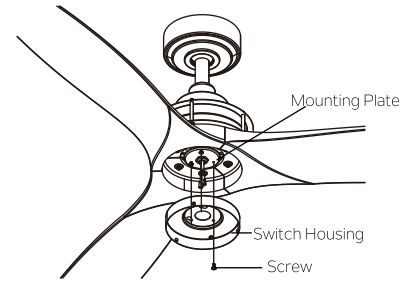

Fig. 24
**Step 4.** Place the two slot holes on the switch housing over the 2 screws previously installed on the mounting plate. Rotate the switch housing until it locks in place at the narrow end of the key holes. Secure by tightening the 2 screws previously installed and the one previously loosened on step 2. (Fig. 24)